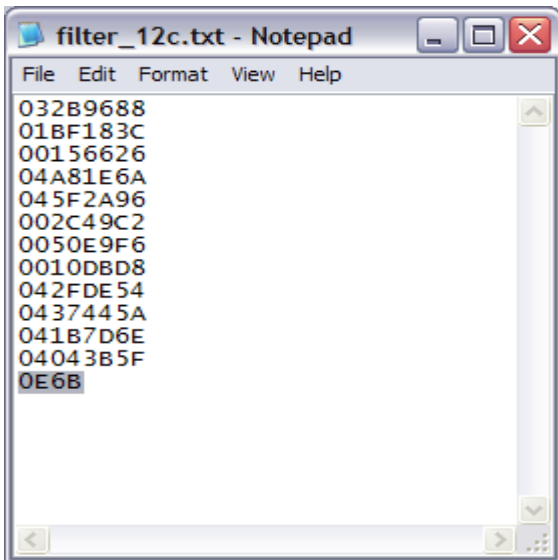

Figure 11.Example of format required for filter coefficients to be downloaded correctly.
11. An example of this format is shown in Figure 11. This example corresponds to the example digital filter in the Downloading A User Defined Filter section in the AD7763datasheet.